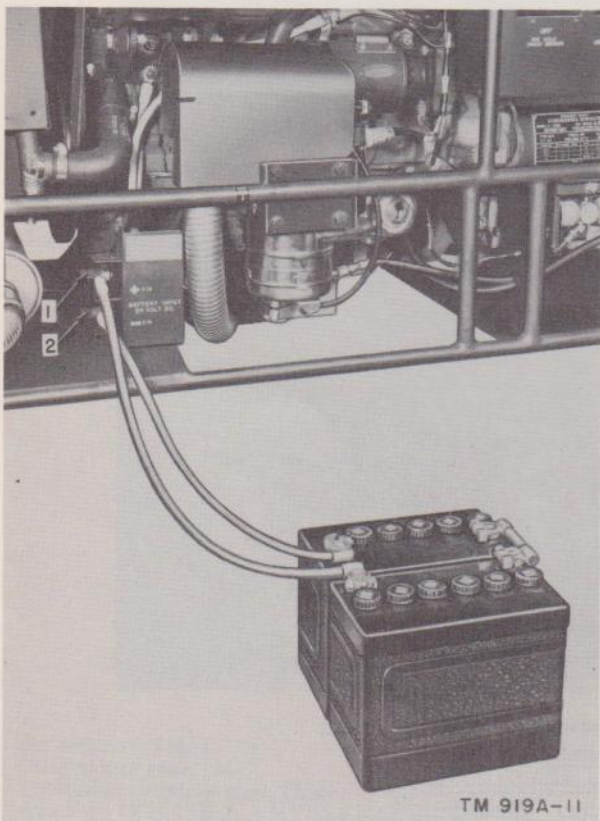

Figure 11. Battery connections.
- (1) Connect one wire of the cable from the stop terminal on the switch to the remote stop terminal on the unit.
- (2) Connect one wire of the cable from the start terminal on the switch to the remote start terminal on the unit.
- (3) Connect the remaining wire from the common terminal on the unit to the center (common) terminal of the switch.
d. Battery Connections. Two terminals for connecting the battery cables are located on the left side of the unit. After preparing the batteries for use as instructed in paragraph 17, position the batteries near the unit and connect them as follows: Attach the battery jumper cable from the negative post of one battery to the positive post of the other battery. Connect a cable from the positive (+) terminal (1, fig. 11) on the unit to the battery with the open positive post. Connect a cable from the negative (-) terminal (2) on the unit to the battery with the open negative post. Figure 11 shows the proper battery connections.